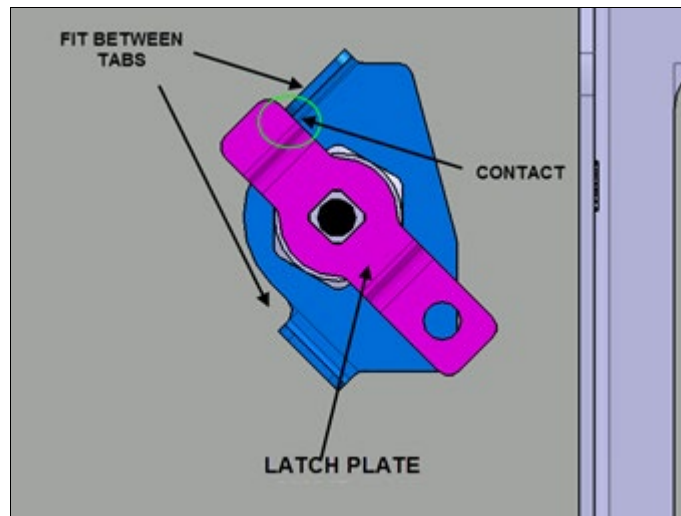

FIG.9 NEW LATCH INSTALLATION
9. Install the latch plate on the cylinder tip. The shorter tab must fit between the two striker plate tabs and make contact with the upper one as shown in Fig.9.